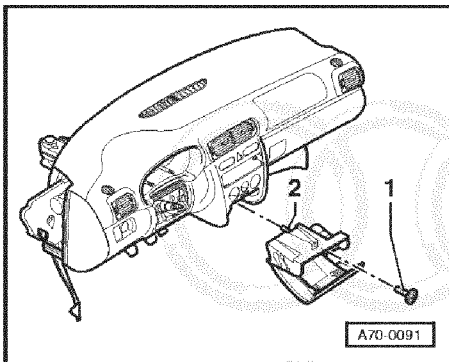

Fig.3 Removing and installing front ashtray
- ◀ – Remove front ashtray => Fig. 3
- ◀ – Removing front ashtray => Fig. 3